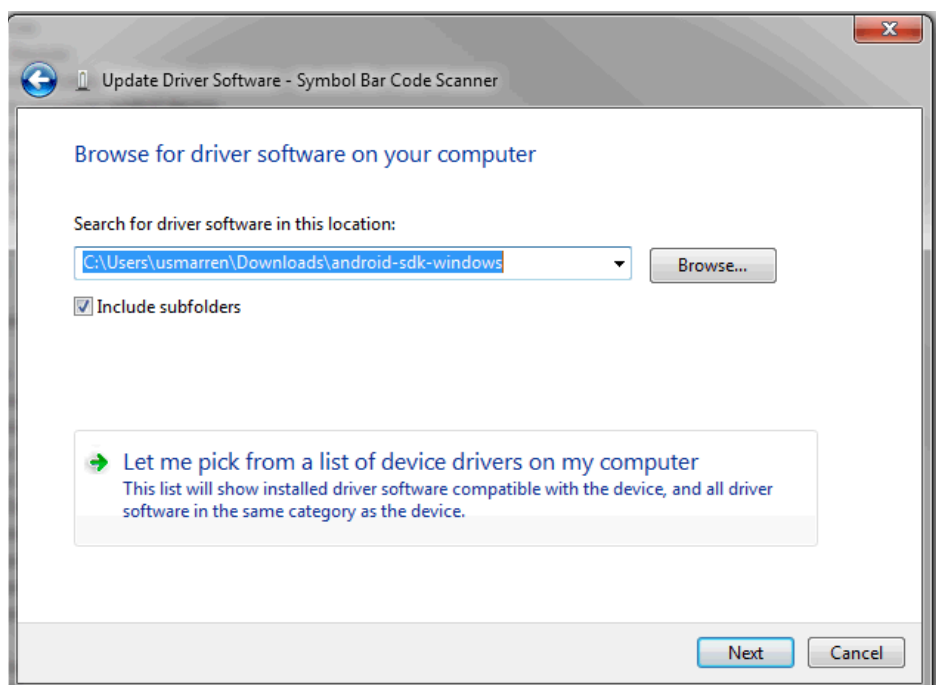

Figure 13: Browse for driver software on your computer
- e. In the dialog box that appears, click **Let me pick from a list of device drivers on my computer** (see Figure 13).